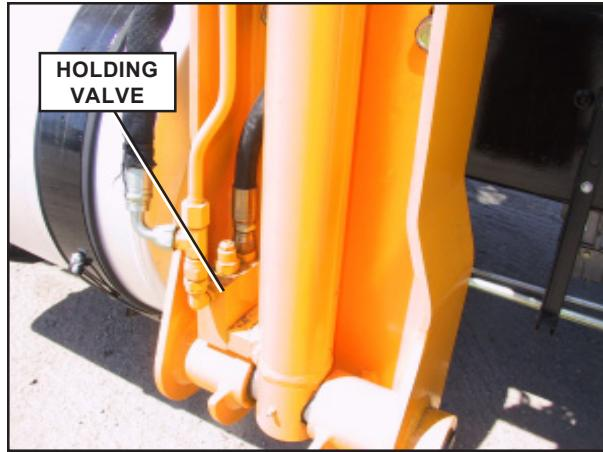

FIGURE 13.39
5. Loosen the locknut on the cartridge of the lock valve (figure 13.39).